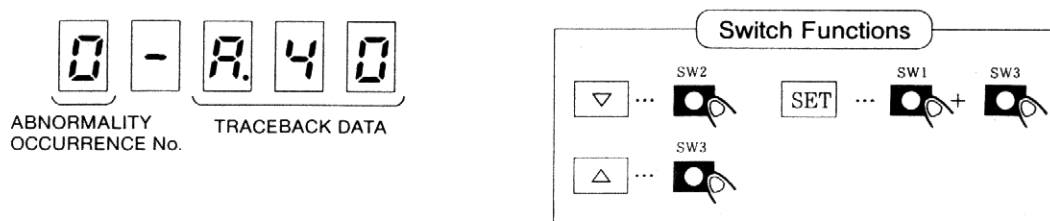

Fig. 8.11 Switch Functions in Abnormal Traceback Mode
- For the relationship between traceback data and abnormal descriptions, refer to Table 8.4. The switch functions are indicated in Fig. 8.11.